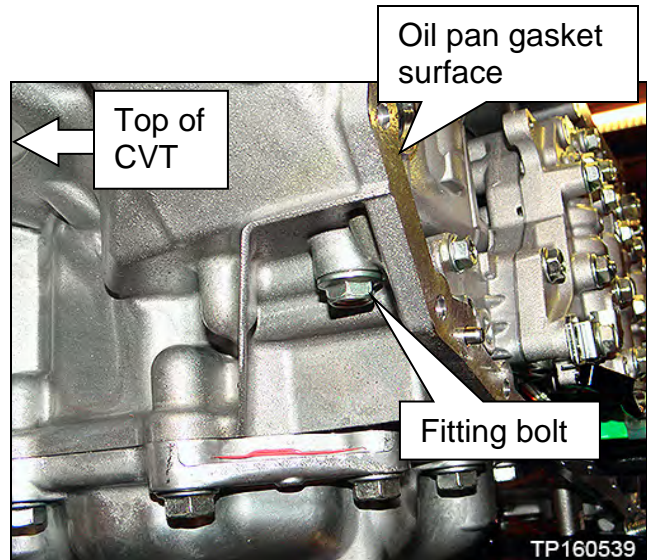

Figure 22C
- a. Remove the fitting bolt located above the left rear corner of the oil pan gasket surface (Figure 22C).